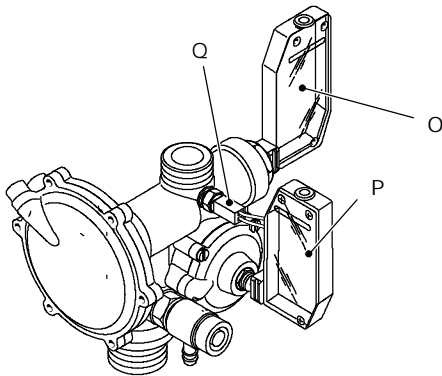

fig. 32
- 5 Remove the forks that hold the d.h.w. pressure switch *O* and the main circuit flow switch *P* and separate the switches from the valve (fig. 32).